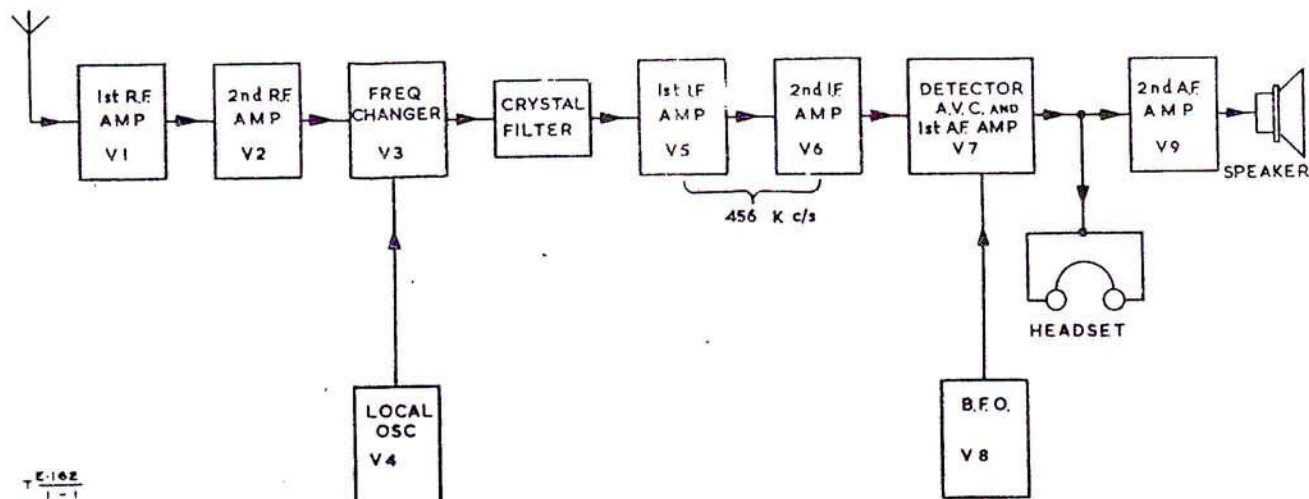

Fig 1 - Block diagram
4. Fig 1 shows a block diagram of the receiver. The frequency range is covered in nine bands by separate plug-in coil units. When the crystal filter is not in use the I.F. bandwidth is 3.0kc/s at -6db. With the crystal in circuit the maximum selectivity is 200c/s at -6db.